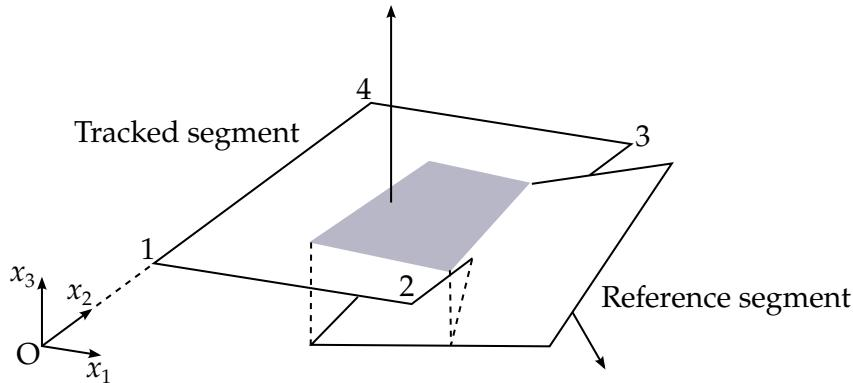

Figure 11-26. Illustration of Mortar segment-to-segment contact
14. **Overview of Mortar Contact.** Mortar contact, invoked by appending the suffix MORTAR to either FORMING_SURFACE_TO_SURFACE, AUTOMATIC_SURFACE_TO_SURFACE or AUTOMATIC_SINGLE_SURFACE is a segment-to-segment penalty-based contact. For two segments on each side of the contact interface that are overlapping and penetrating, a consistent nodal force assembly taking into account the individual shape functions of the segments is performed; see Figure 11-26 for an illustration. A *CONTACT_FORCE_TRANSDUCER-PENALTY can extract forces from Mortar contacts, *but the SURFA and SURFB sides must then be defined through parts or part sets*. For the automatic Mortar contacts, support for eroded solid and shell elements is automatically invoked without the need of an ERODING option. It will also create new edge segments exposed to the exterior as shell elements erode, but beam elements are not yet supported. As for transducers, treatment of eroding requires the SURFA and SURFB sides to be defined through parts or part sets. In this respect, the results with this contact may be more accurate, especially when considering contact with elements of higher order.